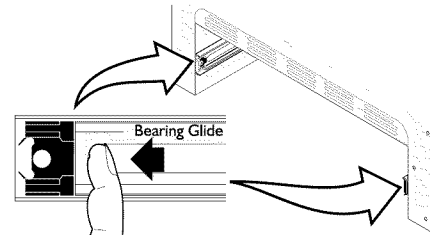

FIGURE 15
- Pull the bearing glides to the front of the chassis glide (See Figure 15).